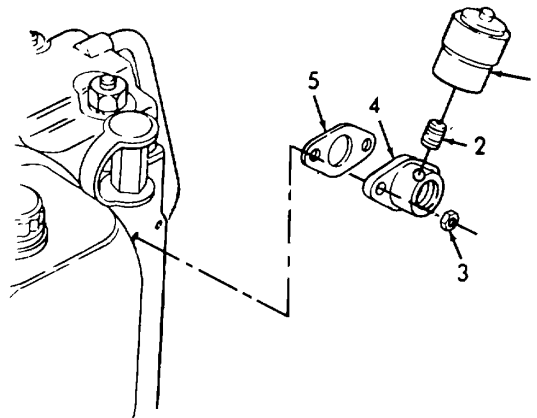

Figure 4-3. Air Filter Indicator Removal/Installation.
a. Removal. (Refer to figure 4-3).
- (1) Unscrew air filter indicator (1) from nipple (2).
- (2) Remove nipple (2).
- (3) Remove two nuts (3), adapter (4), and gasket (5). Discard gasket (5).